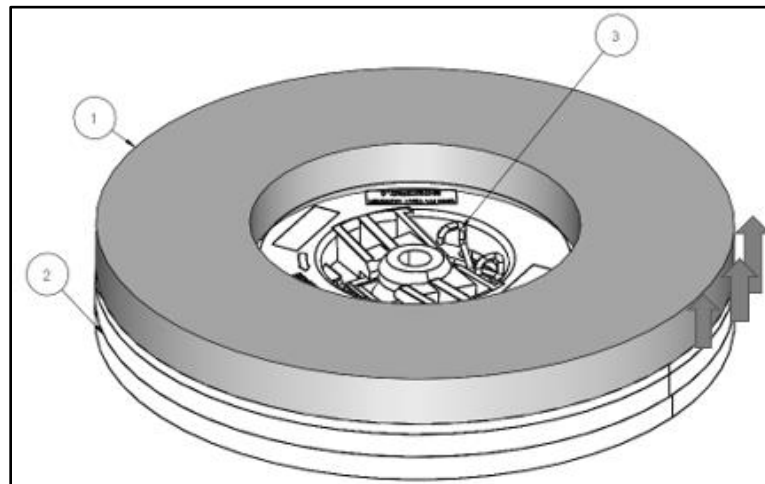

Fig. 1
2. To replace a worn-out pad (Fig. 1 - 1), detach it from its pad holder (Fig. 1 - 2). Then unlatch the padlock (Fig. 1 - 3) to completely remove the pad from the pad holder.